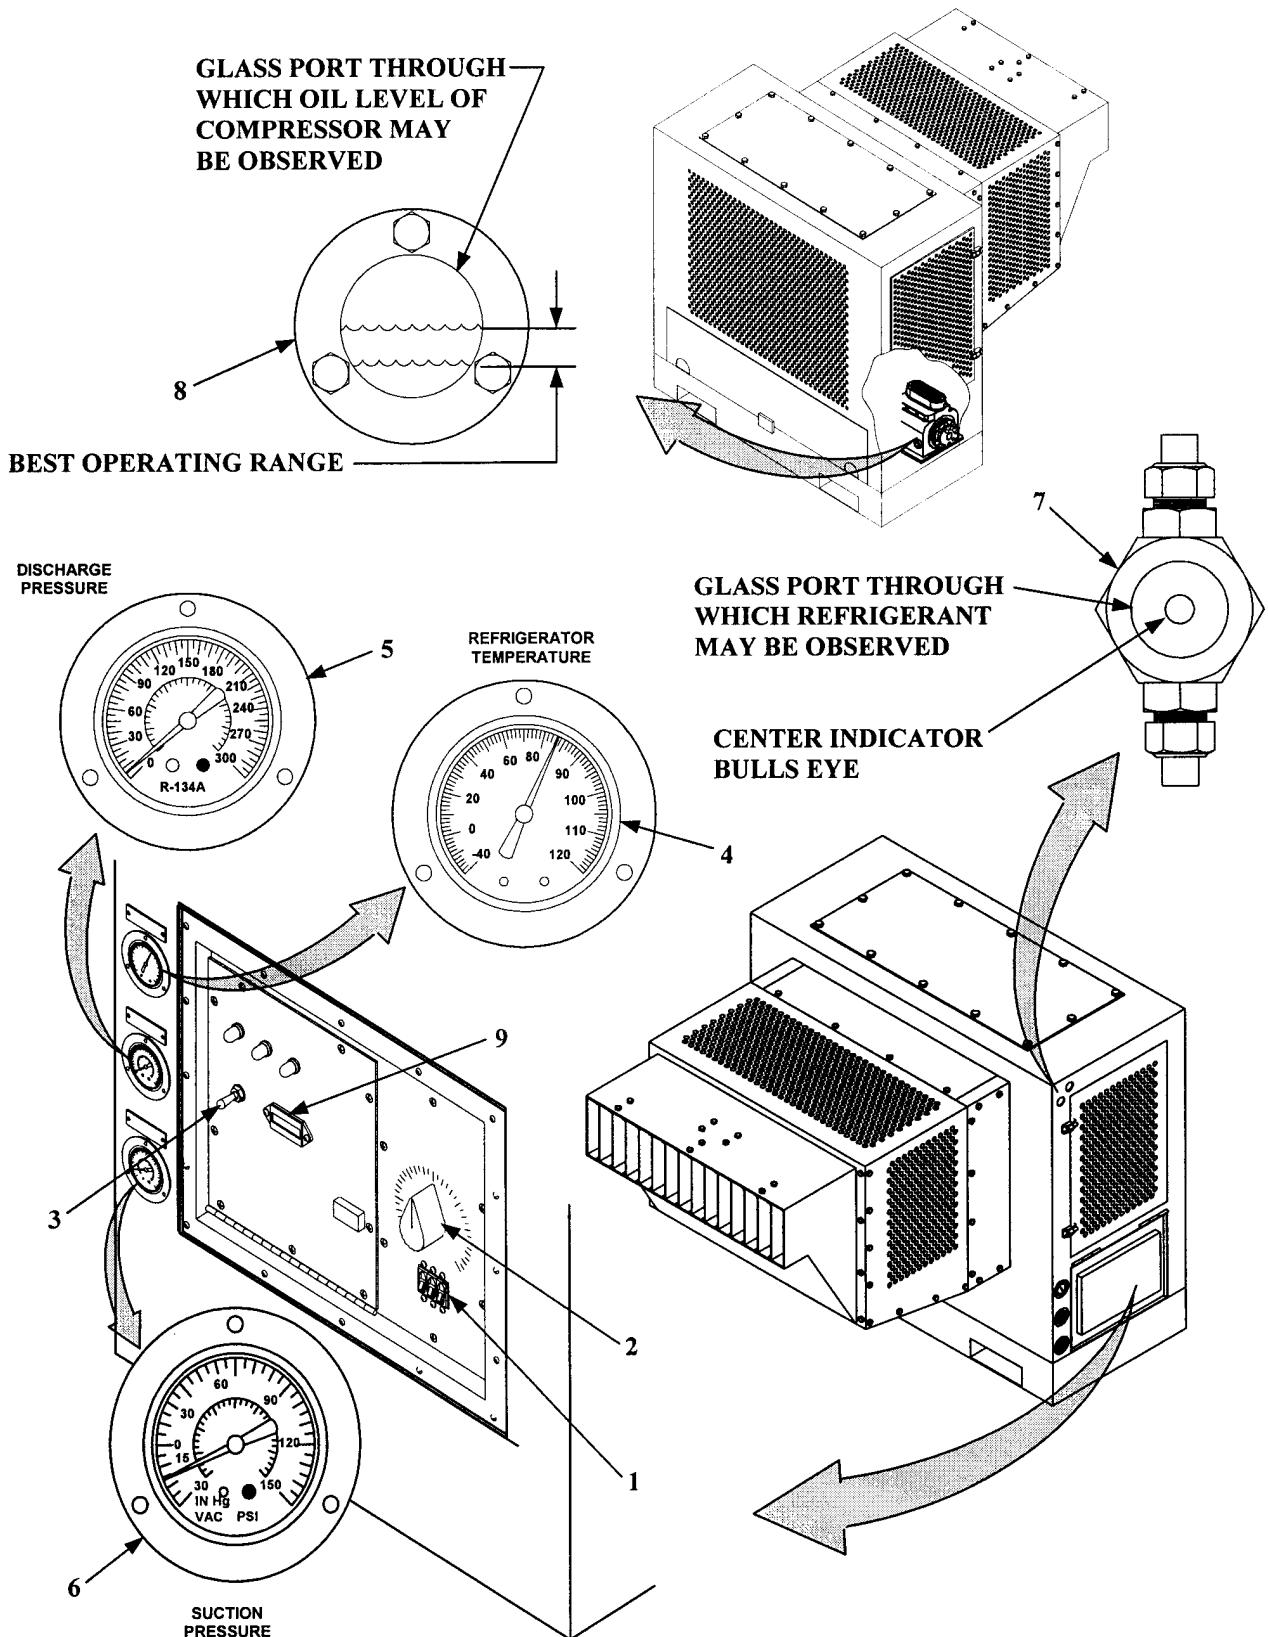

Figure 8. Operating Controls and Indicators (Sheet 1 of 2)
REFRIGERATION UNIT OPERATING CONTROLS AND INDICATORS (Figure 8) – Continued.**INDICATOR (10) (DEFROST IN PROGRESS).**